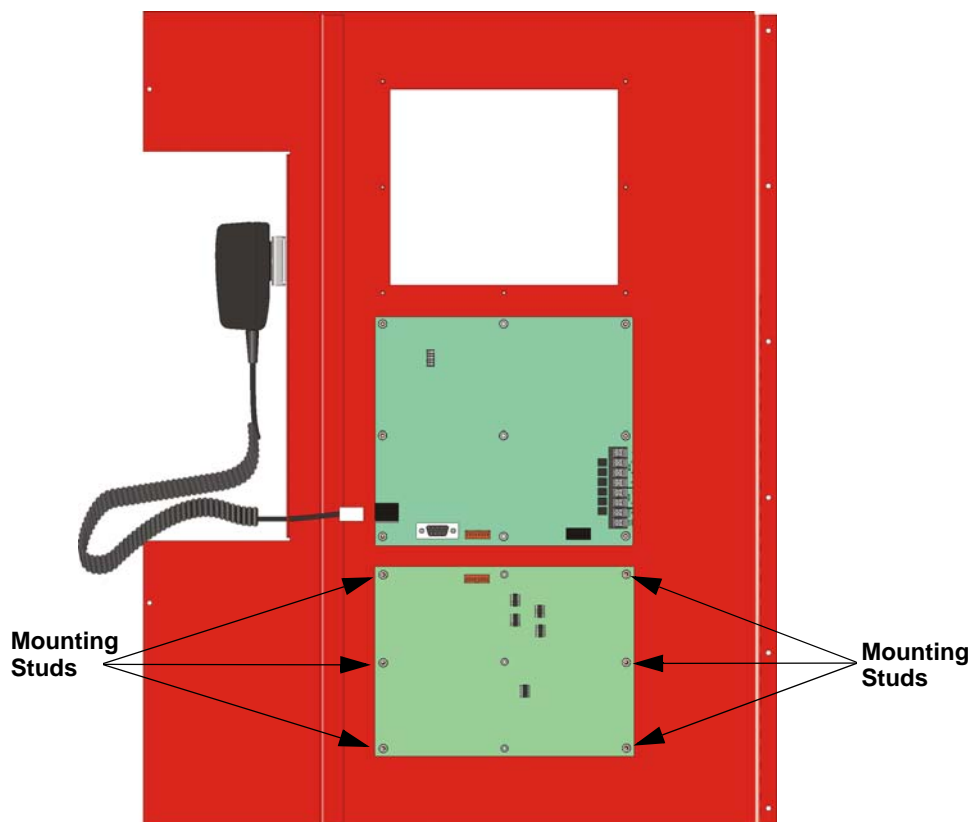

Figure 3-13 Mounting Location for the VIP-SW16
4. Install the VIP-SW16 on the six mounting studs located on the inside of the dead front panel. See Figure 3-13.